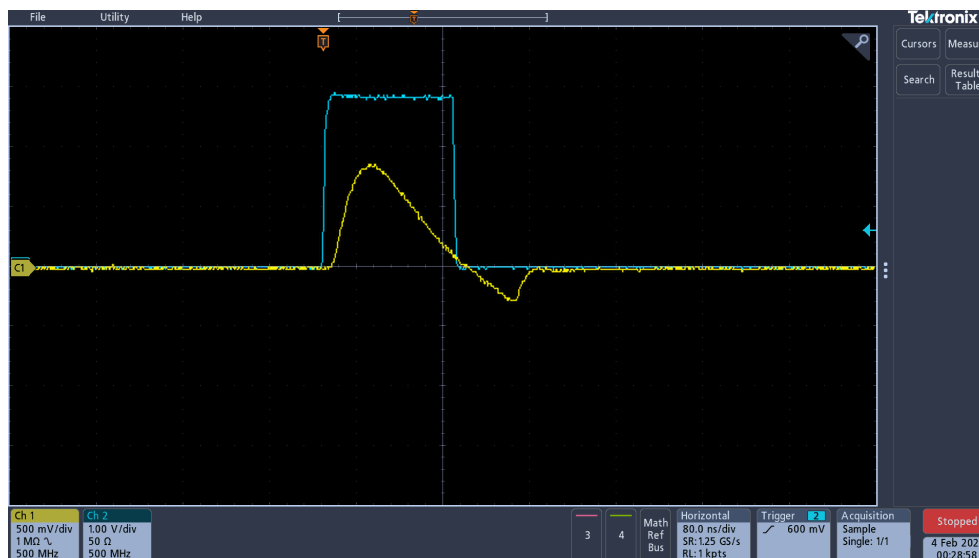

Fig. 10.38: Example of Fast Shaper output (yellow line) together with the trigger (blue line).
8. Select the "FAST" option for the "Analog Probe" parameter. The output is the **bipolar** signal from the Citiroc-1A Fast Shaper of the selected channel, similar to that shown in Fig. 10.38.